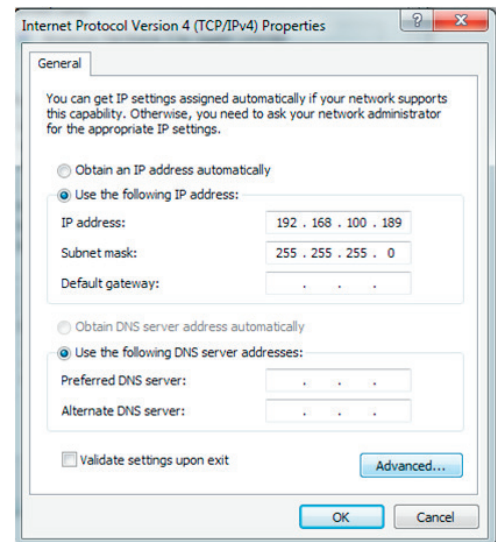

Figure 3
5. Set up the IPv4 settings as shown in the image in Figure 3. The IP address can be anything within the range of the subnet mask assigned to the RCU. The default IP address for an RCU with RCU Probe enabled is 192.168.100.36.